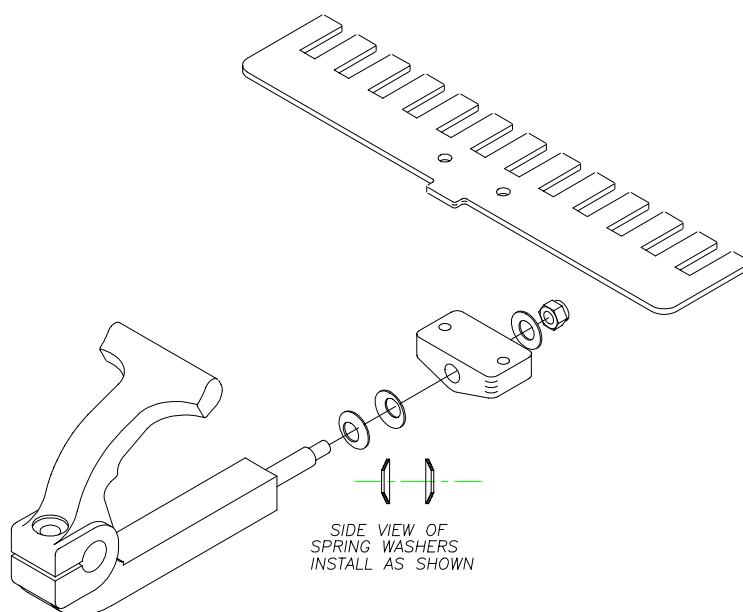

**Figure 7-18 Lifter Release Assembly**
5. Disconnect the lifter release tension spring (Item 11, Figure 7-18).